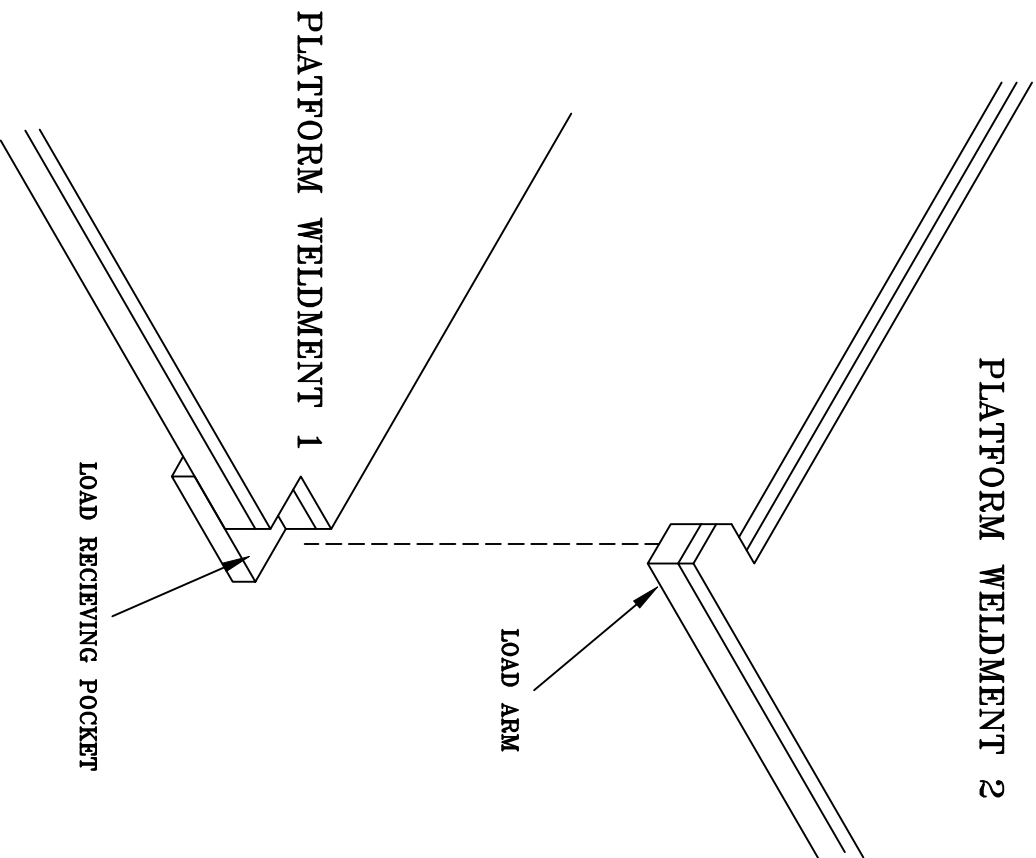

FIGURE 3 CENTER DETAIL
3. Carefully place platform Weldment #2 into position. The platforms interlock with each other (see Fig 3) with the load arm witting inside the load receiving pocket. Once platform Weldment #2 is in place and properly aligned, shim each corner as needed to achieve level. Make sure each load cell stand has equal pressure against the ground.